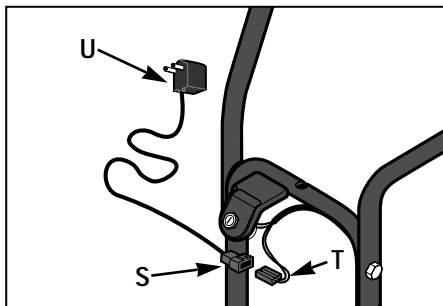

Figure 2-7
2. Connect the terminal (S, Figure 2-7) on the supplied battery charger to the recharging line receptacle (T) on the wiring harness (located behind key switch).
3. Plug the charger box (U) into a grounded, 120V wall outlet. Initially charge the battery for 24 hours before using the electric starter. After charging, unplug the charger box (U) from the wall outlet and then disconnect the terminal (S) from the receptacle (T).